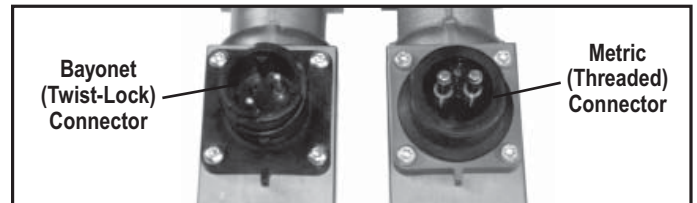

FIGURE 2 - THE BENDIX® AT-3™ SOLENOID VALVE - BAYONET AND METRIC (THREADED) CONNECTORS
4. Disconnect the electrical connector from the solenoid. Note the two connector styles used: the metric (threaded) connector, and bayonet (twist-lock) connectors shown in Figure 2.